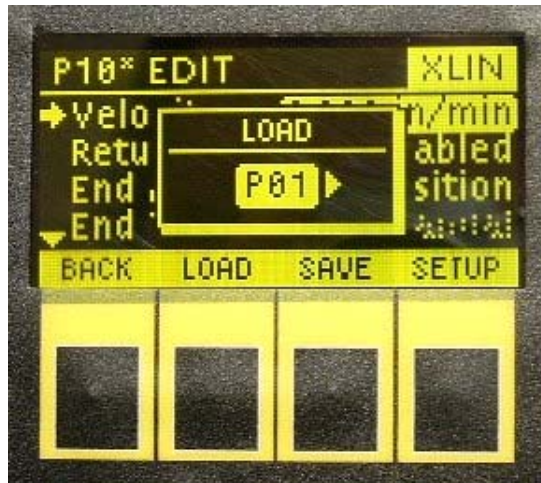

Figure 5-2 – XMS-LIN Hand Pendant *Load* Screen
From the *Start-up* screen, the four (4) Soft Buttons below the Split Screen Display read EDIT, DISABLE, LO SPD, and STATUS. Press the EDIT Button, then, press the LOAD Button. Use the LEFT/RIGHT Soft buttons to select the desired program (P01 to P10). Press the LOAD Button again to load the program. (See Figure 5-2.)